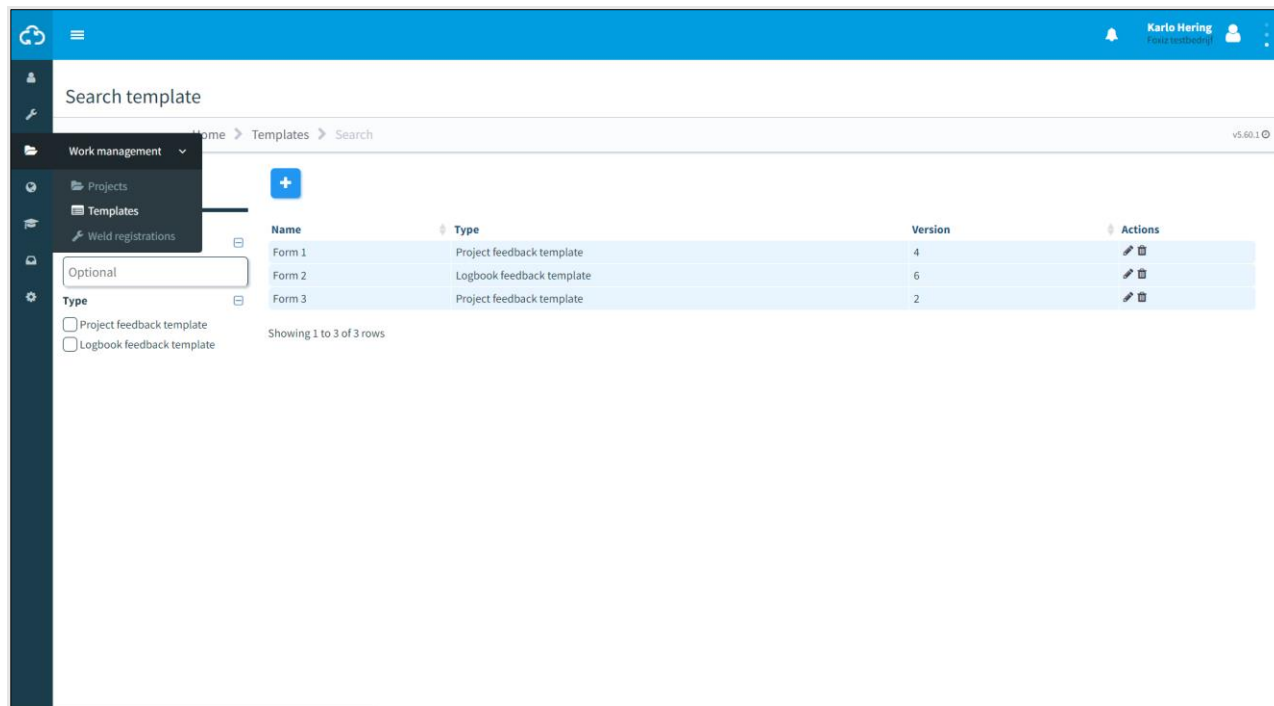

Figure 89 Search template
- Step 3 - General (Figure 89).